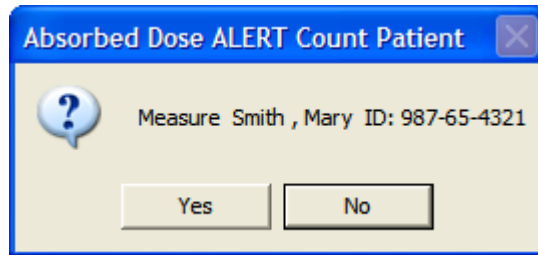

Figure 7-23
- Click the **Count** button to begin counting the selected patient. Figure 7-23 will appear confirming the selected patient. To cancel the test or if the incorrect patient was selected, click the **No** button, otherwise click **Yes** to continue.